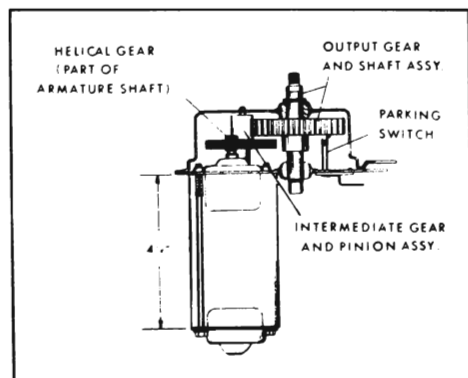
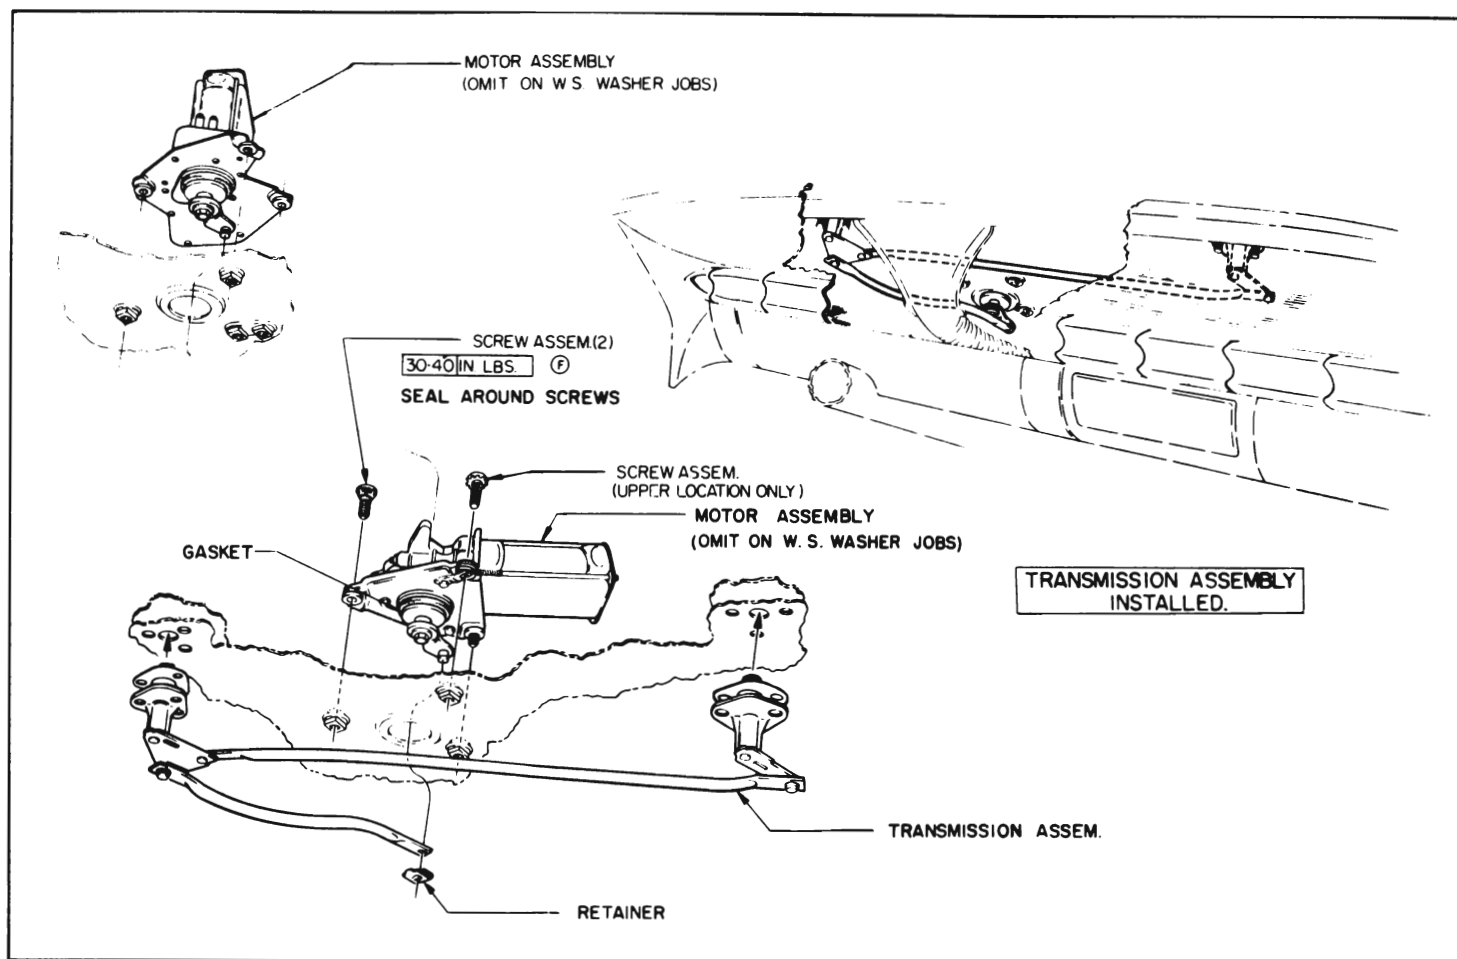
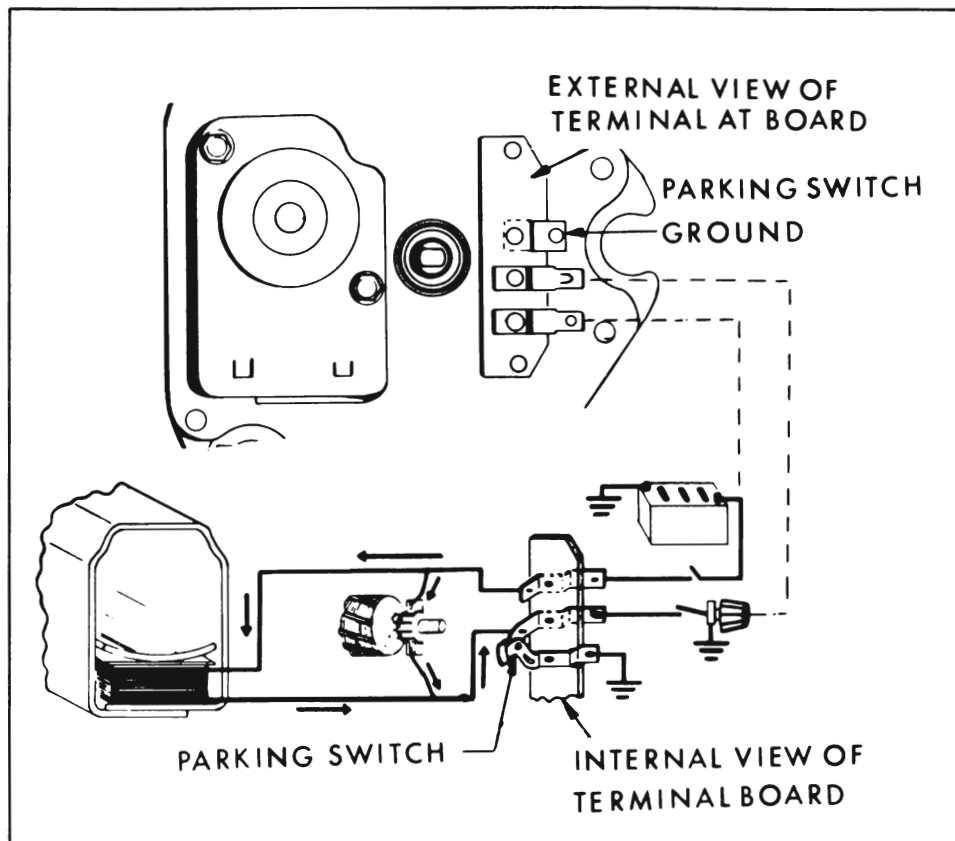

Figure 10-85—Typical View of Gear Train
Figure 10-86—Windshield Wiper Installation
Figure 10-88—Single Speed Wiper Wiring Diagram
The gear train consists of a helical gear at end of armature shaft. The helical gear drives an intermediate gear and pinion assembly, the pinion of which drives an output gear and shaft assembly. See Figure 10-85. The crank arm is attached to the shaft of the output gear and drives the two wiper transmissions through connecting link arms. See Figure 10-86.
and stopping of the wiper. The switch mounted on the dash controls starting the wiper. The park switch, which is located in the wiper gear box (Figure 10-85), controls stopping the wiper. The operation of the park switch is explained in the following paragraph. (Refer to the wiring diagram in Figure 10-88).
(1) Make sure wiring harness is properly attached to wiper terminals and dash switch. See Figure 10-88.
(2) Make sure wiper ground strap is properly connected to wiper and car body.
(3) Make sure switch is mounted securely in dash.
(4) Check fuse.
(a) Remove wiper from car and check for a dirty or broken park switch. (See Figure 10-85 for park switch location.)
The two-speed non-depressed park wiper consists of a rectangular shaped compound wound motor (series and shunt field) adapted to the same type gear train as that used with the single speed wiper (See Figure 10-85). The two-speed wipers have a 36:1 gear ratio.